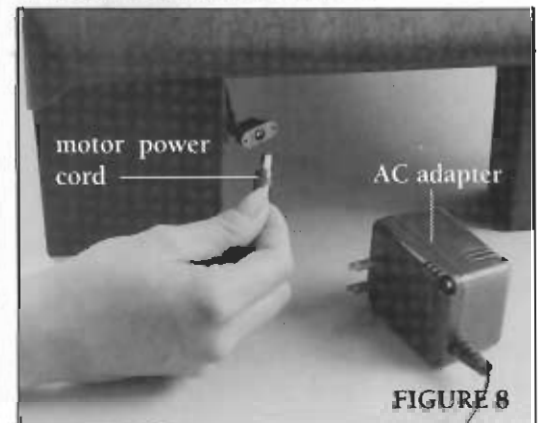

FIGURE 8
6. Connect the motor power cord to the AC adapter (Figure 8). Plug the AC adapter into a wall outlet.